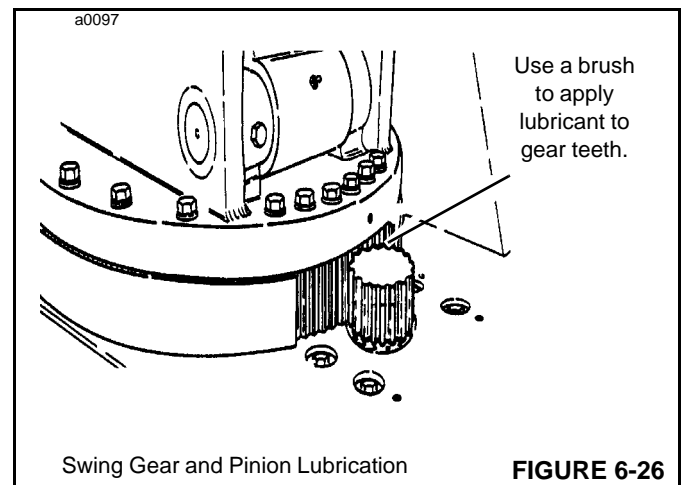

FIGURE 6-26
3. Using a brush, apply open gear lube to the pinion and swing gear teeth (Figure 6-26).